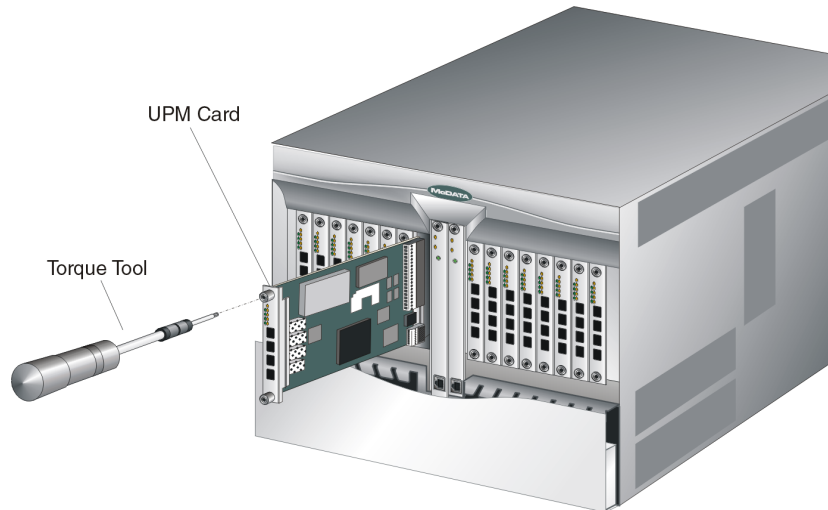
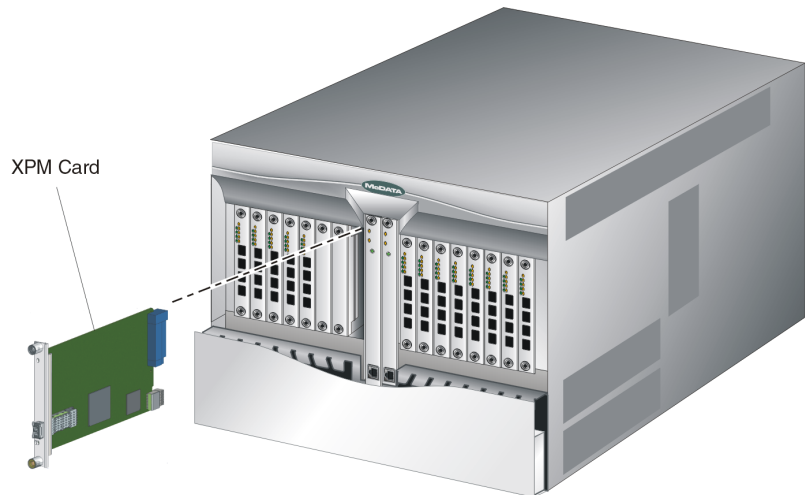

Figure 5-5 UPM Card Removal and Replacement
Figure 5-6 XPM Card Removal and Replacement
- b. Insert the torque tool into the cam Allen screw at the **top** of the card (Figure 5-5 and Figure 5-6). To unseat the port card and cam it out of the backplane, turn the screw counterclockwise until the tool turns freely.
2. Hold the card by its stiffener and insert it in the chassis card track (Figure 5-5). The label identifying the card should be at the top. Verify the card is aligned in the card tracks, then slide it forward until it makes contact with the backplane.